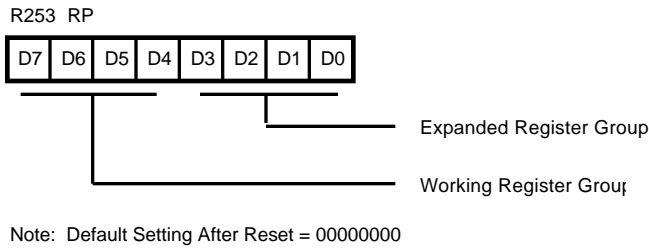

Figure 17. Register Pointer Register
**Register File.** The Register File consists of three I/O port registers, 237 general-purpose registers, 15 control and status registers, and four system configuration registers in the Expanded Register Group (Figure 16). The instructions can access registers directly or indirectly through an 8-bit address field. This allows a short 4-bit register address using the Register Pointer (Figure 18). In the 4-bit mode, the Register File is divided into 16 working register groups, each occupying 16 continuous locations. The Register Pointer (Figure 17) addresses the starting location of the active working-register group.